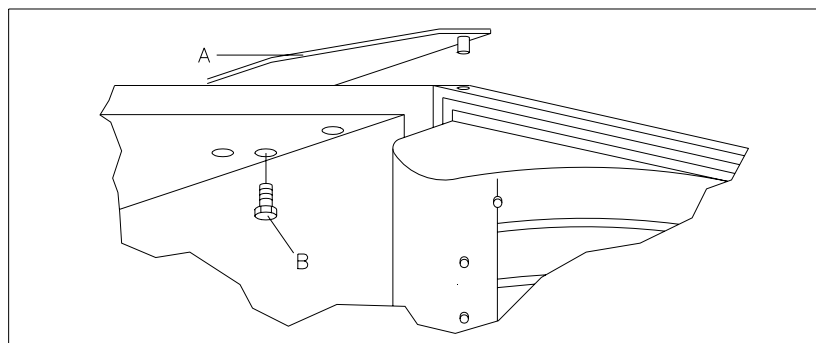

FIG. 15
- 5) After all the electrical wiring has been removed, mark the position of the top door hinge and loosen the screws (pos. B) with a 13mm spanner to remove the plate (pos. A) Fig. 15. (The help of a second person is recommended to support the door while it is being removed).
- 8) Adjust plates A Fig. 15 and the door lock catch to ensure correct alignment of the door and to adjust the pressure on the door seal.